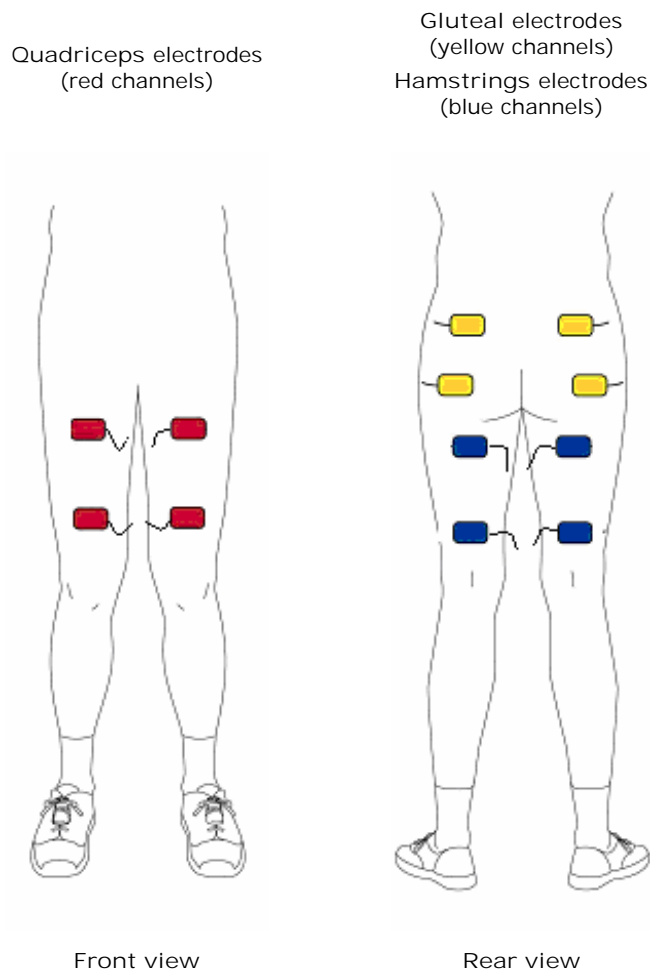

Figure 23: Surface electrode sites
i To use the RT300-S System, you must have all 12 surface electrodes correctly fitted to your body, as shown in Figure 23.
3. Place the two surface electrodes on your body at the correct location. (See Figure 23).
Figure 23 indicates the sites for electrode placement. However, as placement varies slightly between individuals, your clinician will determine the locations that provide the most effective stimulation for you.
i The Gluteal electrode leads should face outward (lateral). It is often easiest to attach the stimulation cable to the Gluteal electrodes before placing them on your skin. All other electrode leads should face inwards (medial) as shown in Figure 23.